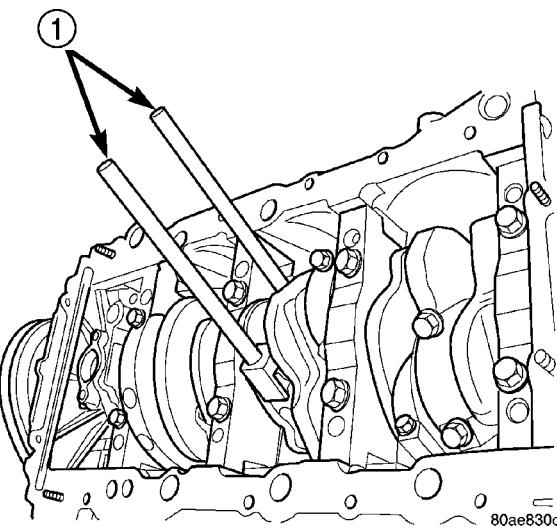

Fig. 64 Connecting Rod Guides - Typical
(9) To protect crankshaft journal and fractured rod surfaces, install Special Tool 8189, connecting rod guides onto connecting rod (Fig. 64). Carefully push each piston and rod assembly out of cylinder bore.
(10) Remove Special Tool 8189, connecting rod guides and re-install bearing cap on the mating rod.
(6) Rotate crankshaft so that the connecting rod journal is on the center of the cylinder bore. Lubricate connecting rod journal with clean engine oil.
(7) Install connecting rod upper bearing half into connecting rod. Install Special Tool 8189, connecting rod guides onto connecting rod (Fig. 64).
(8) Tap the piston down in cylinder bore, using a hammer handle. At the same time, guide connecting rod into position on connecting rod journal.
(9) Remove Special Tool 8189, connecting rod guides.